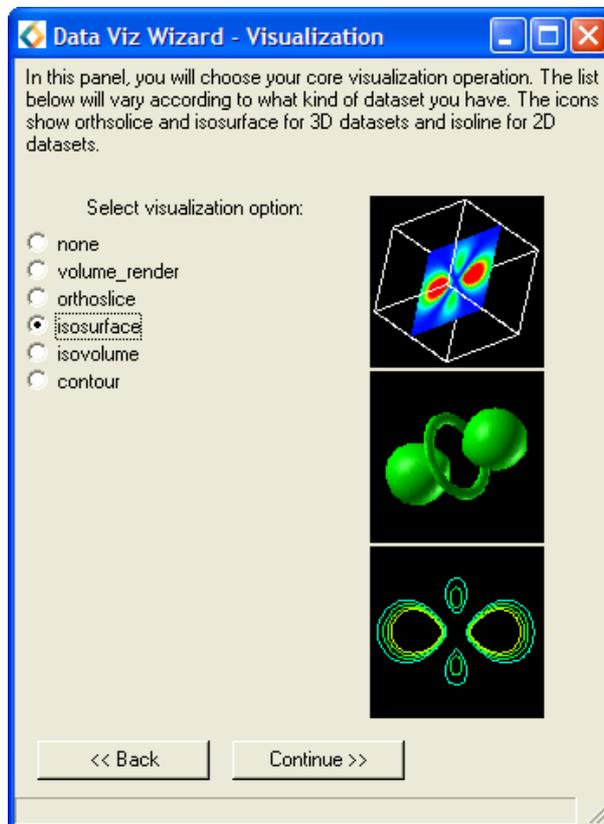

Figure C.20: **Data Viz Wizard - Visualization**
- Rerun the `Data Visualization Wizard` from the `DataViewer Editor Panel` by selecting **Continue >>** and in the **Data Viz Wizard - Visualization** window select a different visualization method such as **isosurface** (Figure C.20).